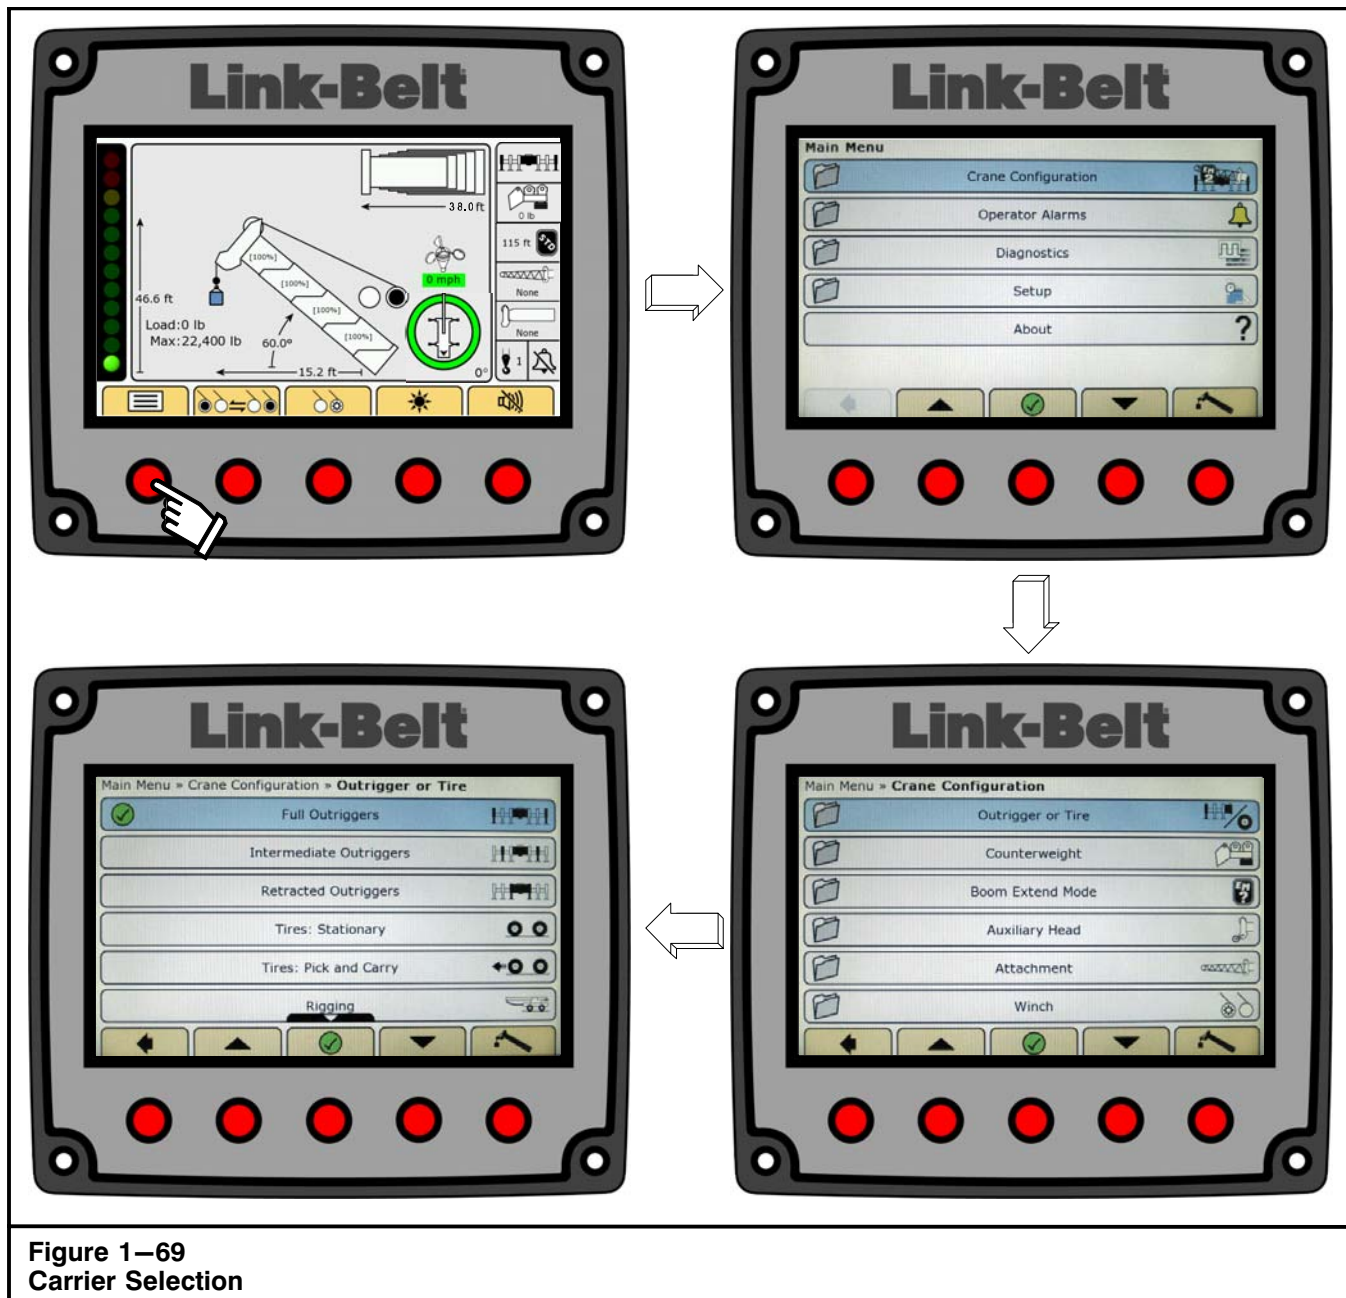

Figure 1-69
1. From the normal working screen, press the Main Menu button . Refer to Figure 1-69.